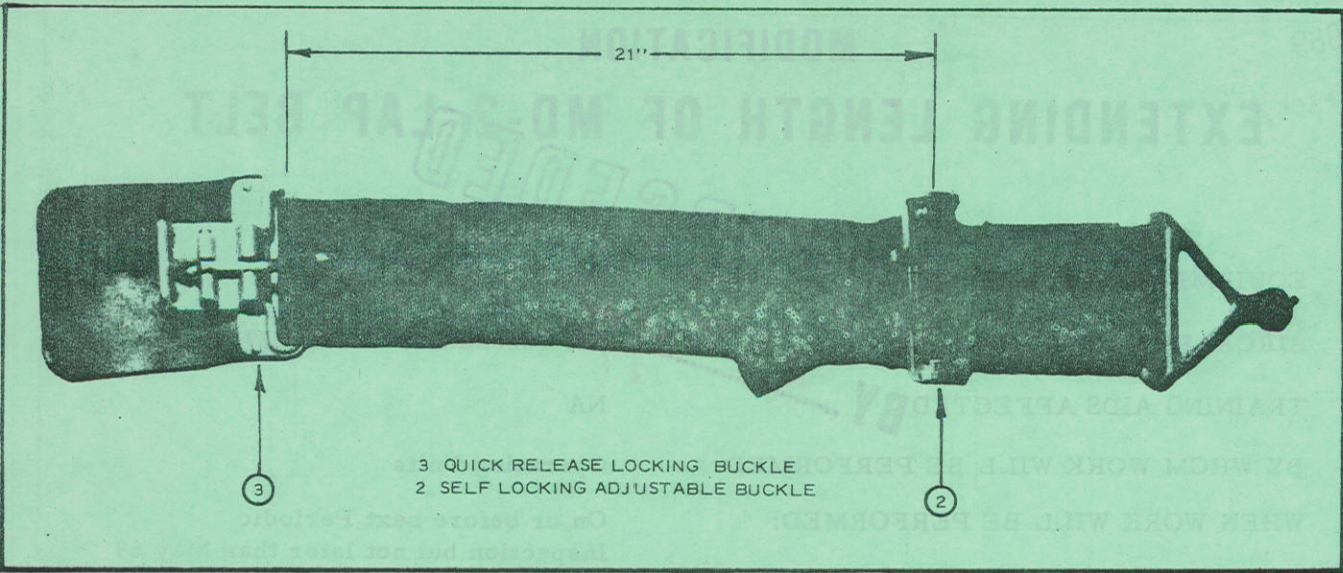

Figure 1
- (b) Install new webbing Part MILW25361 on the existing harness to obtain maximum length shown in Figures 1 and 2.